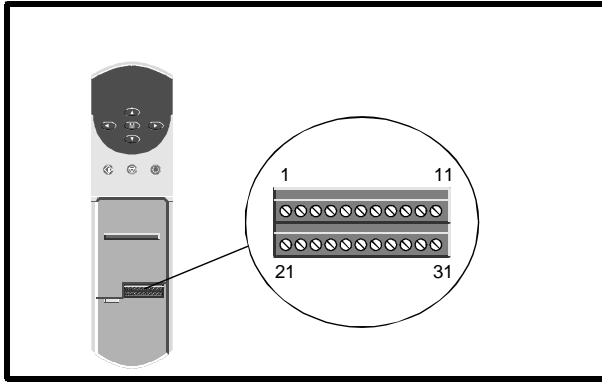

Figure 2-2 Location of the signal connector
- Figure 2-2 for the location of the signal connector